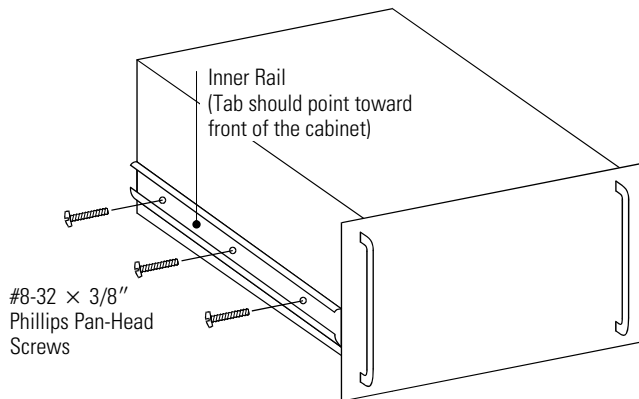

Figure 25. Attaching the Inner Rail to the UPS Cabinet
2. Attach the inner rails to the UPS cabinet (see Figure 25). Be sure the tab on the inner rail points to the front of the UPS cabinet. Secure the rail using three #8-32 \times 3/8" Phillips pan-head screws on each side of the cabinet.